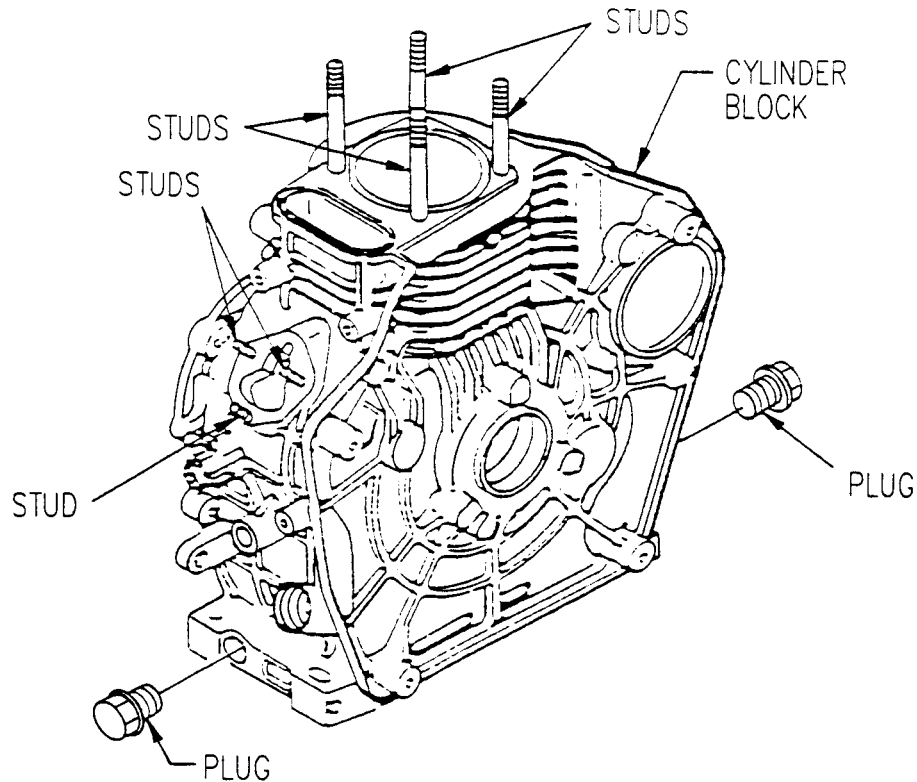

Figure 5-38. Cylinder Block
- (1) Shut down generator set.
- (2) Remove diesel engine, refer to paragraph 5.10.a.
- (3) Remove engine wiring harness, refer to paragraph 4.58.c.
- (4) Remove crankcase cover, refer to paragraph 5.16.a.
- (5) Remove crankshaft, refer to paragraph 5.22.a.
- (6) Remove governor, refer to paragraph 5.24.b.
- (7) Remove starter, refer to paragraph 4.57.a.
- (8) Remove governor regulator bracket, refer to paragraph 4.52.a.
- (9) Remove fuel filter assembly, refer to paragraph 4.15.a.
- (10) Remove oil fill cap/dipstick.
- (11) Remove studs (Figure 5-38) from cylinder block.
- (12) Remove drain plugs from cylinder block.
- (1) Install drain plugs (Figure 5-38) in cylinder block.